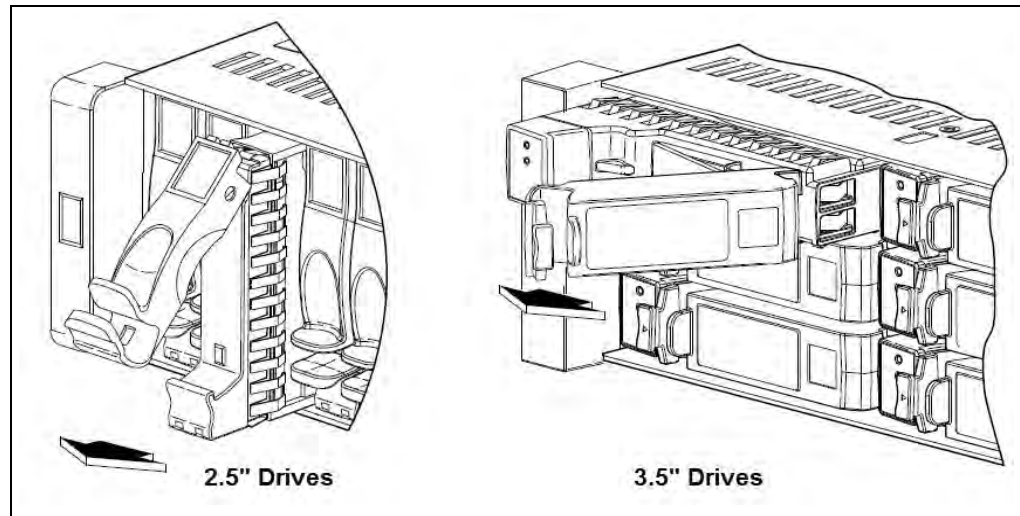

Figure C.51 - Removing an AMS
3. Pull the drive module straight out of the chassis (see **Figure C.51**). Return the failed disk and carrier to Tektronix Communications.